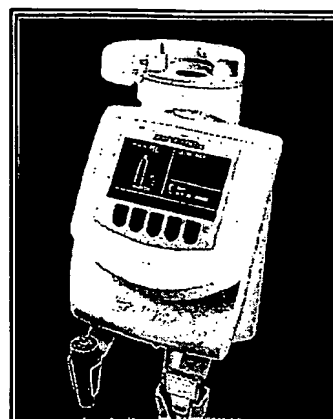

Figure 2.7 Open Syringe Door
3. The words **AUTO-INITIALIZE** will then be displayed in the lower left corner of the Injector Controller's screen. Open the syringe door as shown in Figure 2.7.